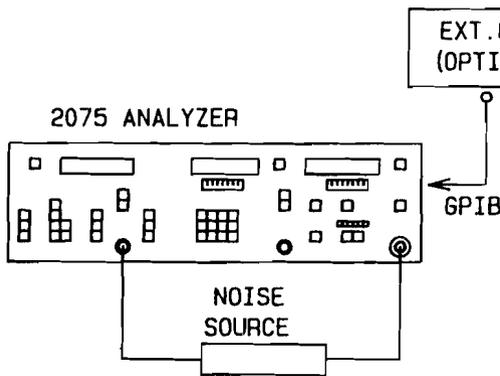
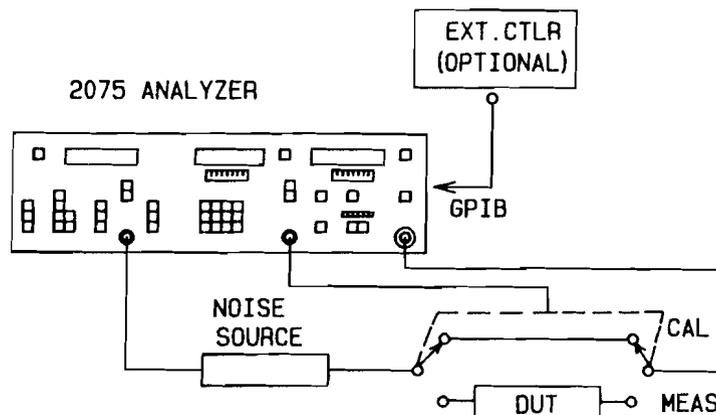

Figure 3-5a. TEST CONFIGURATION 1 Calibration
Figure 3-6. EXTERNAL RELAYS AUTOMATE CALIBRATION AND MEASUREMENT PATHS
Figures 3-5a and 3-5b are the connection diagrams for calibration and measurement when external relays are not used. Figure 3-6 shows the optional setup where external relays, controlled by the 2075, are used to provide a calibration path. (Refer to Paragraph 3-34, page 3-75.)
1. Connect the test equipment as shown in the calibration setup of Figure 3-5a or the optional setup of Figure 3-6.